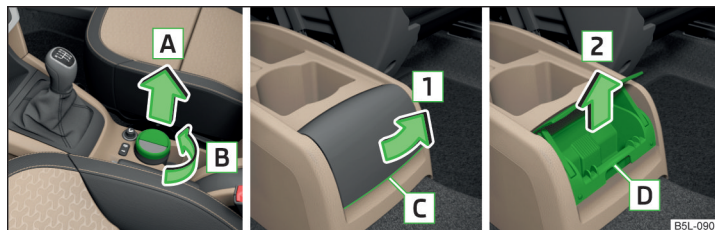

Fig. 79 Removing and opening front ashtray and / Low centre console:
- > Remove the ashtray in the direction of the arrow [A] » Fig. 79.
- To **open**, grasp the lid on the edge **C** and fold in the direction of arrow **1** until the stop » Fig. 79.